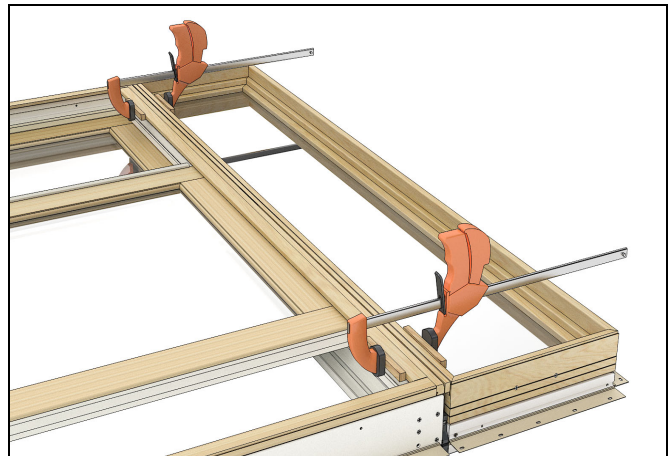

Figure 12
12. Lightly clamp the frames together on interior (use wood blocks to protect interior) near each end to hold the mull units in place. See Figure 12. *NOTE: 2 wide 1 high vertical mull clamping shown. Clamp units together according to the desired configuration.*